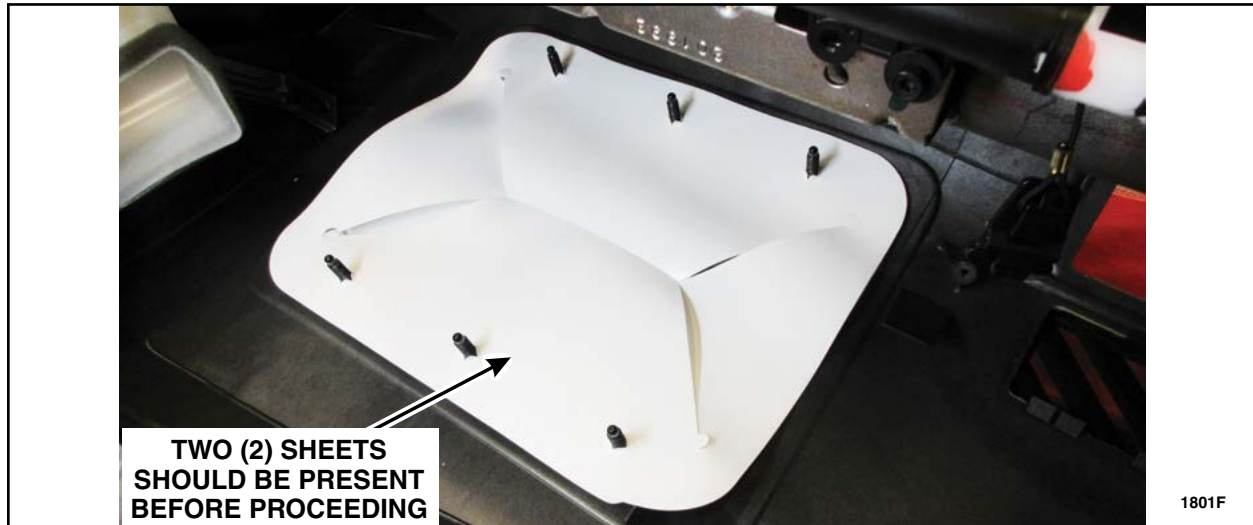

FIGURE 8
7. Replace sheet or sheets if damaged, clear both sheets of any dirt or debris and reinstall both sheets on the airbag mounting bracket studs. See Figure 8.